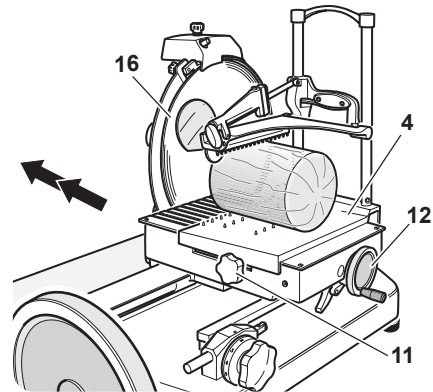

Figure 12-3
6. Use the product holder operating handwheel (12) or the fast forward knob (11) to move product holder (4) close to knife blade (16) (Figure 12-3.)